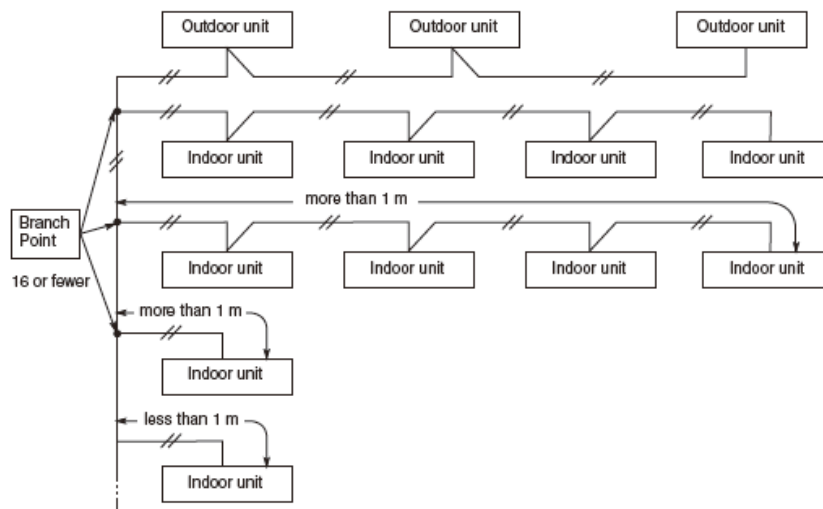

Fig.9-5
- (4) If branching the inter-unit control wiring, the number of branch points should be 16 or fewer.(Branches that are less than 1m are not included in the total branch number.)(Fig.9-5)